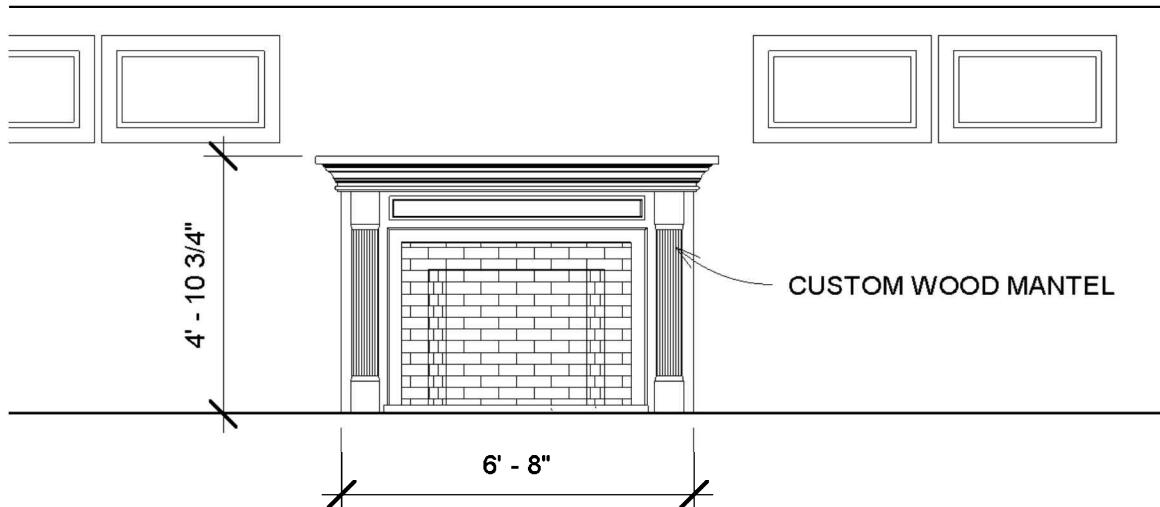

FIGURE 10-3.7 Living Room - East elevation: annotation added
20. Add the (2) dimensions and (1) text ($3/32"$ text style) with leader shown in Figure 10-3.7.